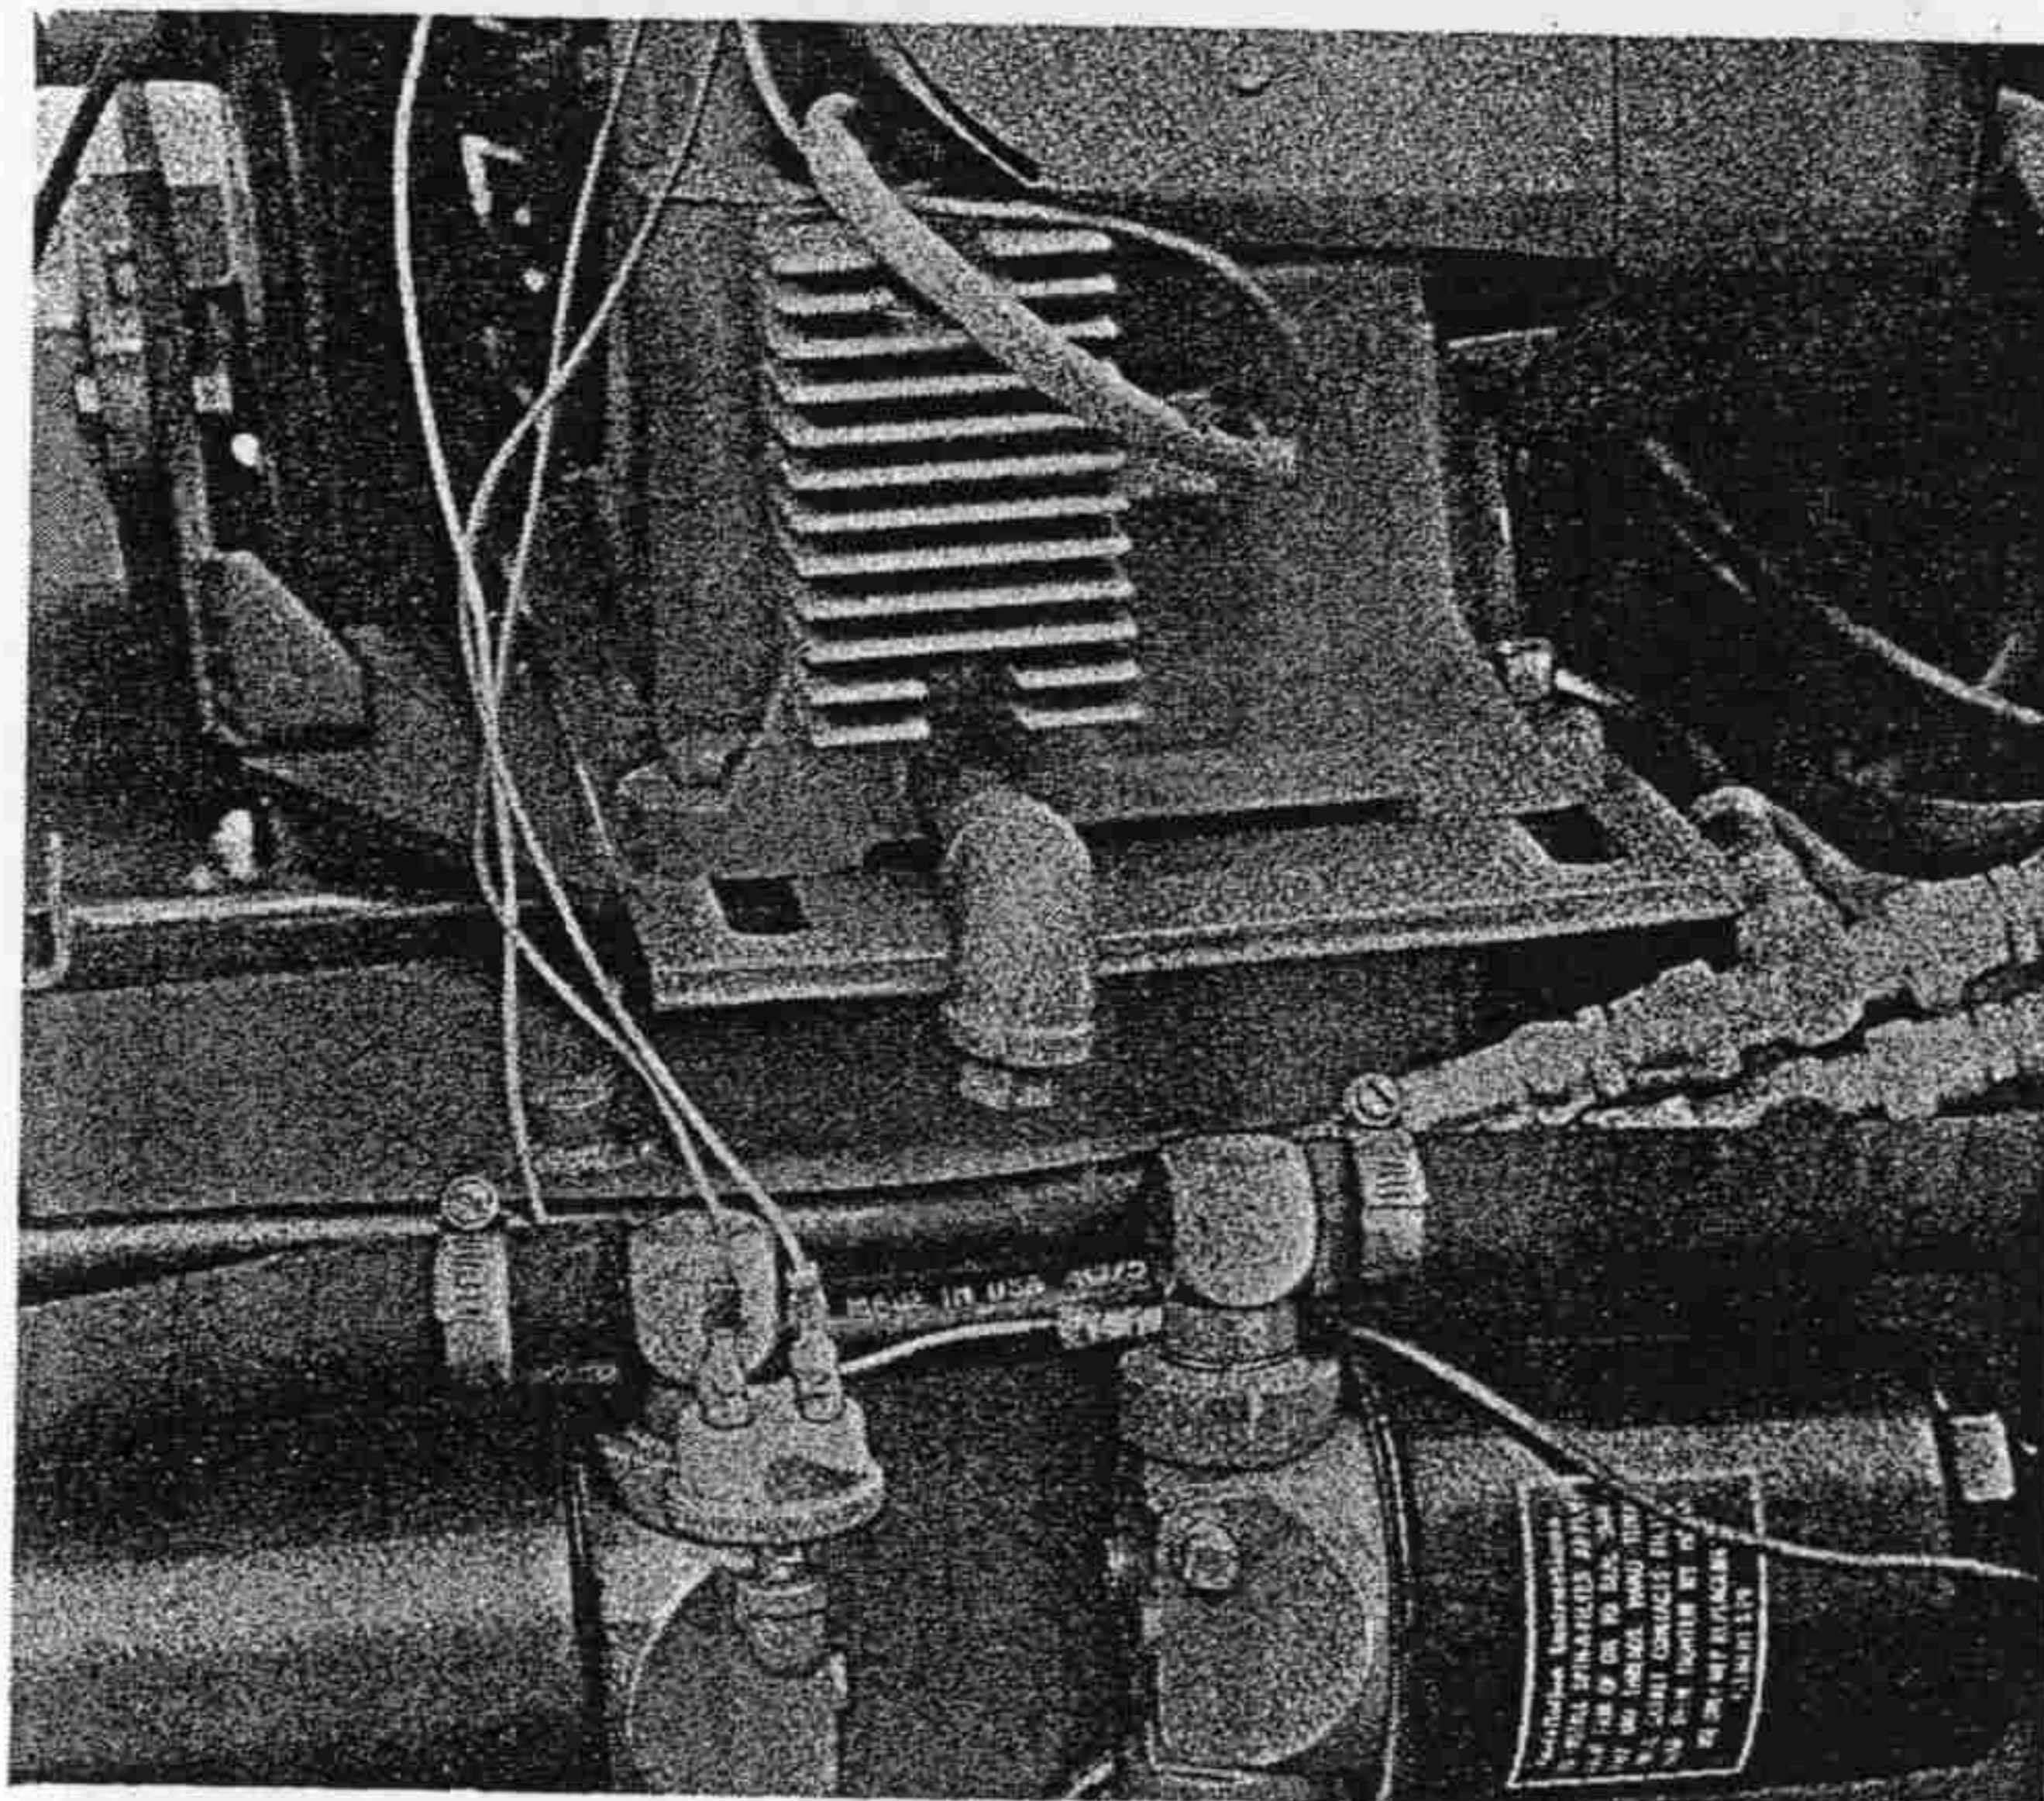

Fig. 46
To drain oil, remove cap on drain hose (Fig. 46). Drain oil, when warm, for at least 10 minutes then replace cap. Fill with 3.5 quarts of proper grade of oil for outside temperature, 3.25 quarts if filter is not changed.
5. Be sure to tighten cap on fill pipe. (Fig. 46).